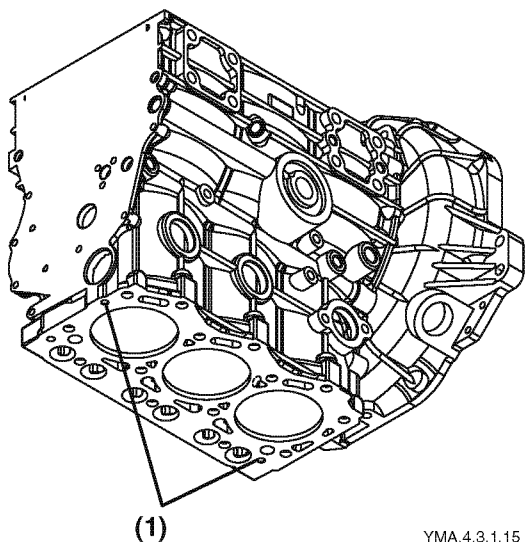

Figure 5-80
Make sure that the cylinder head alignment pins (Figure 5-80, (1)) on the cylinder block do not come in contact with the wood block.